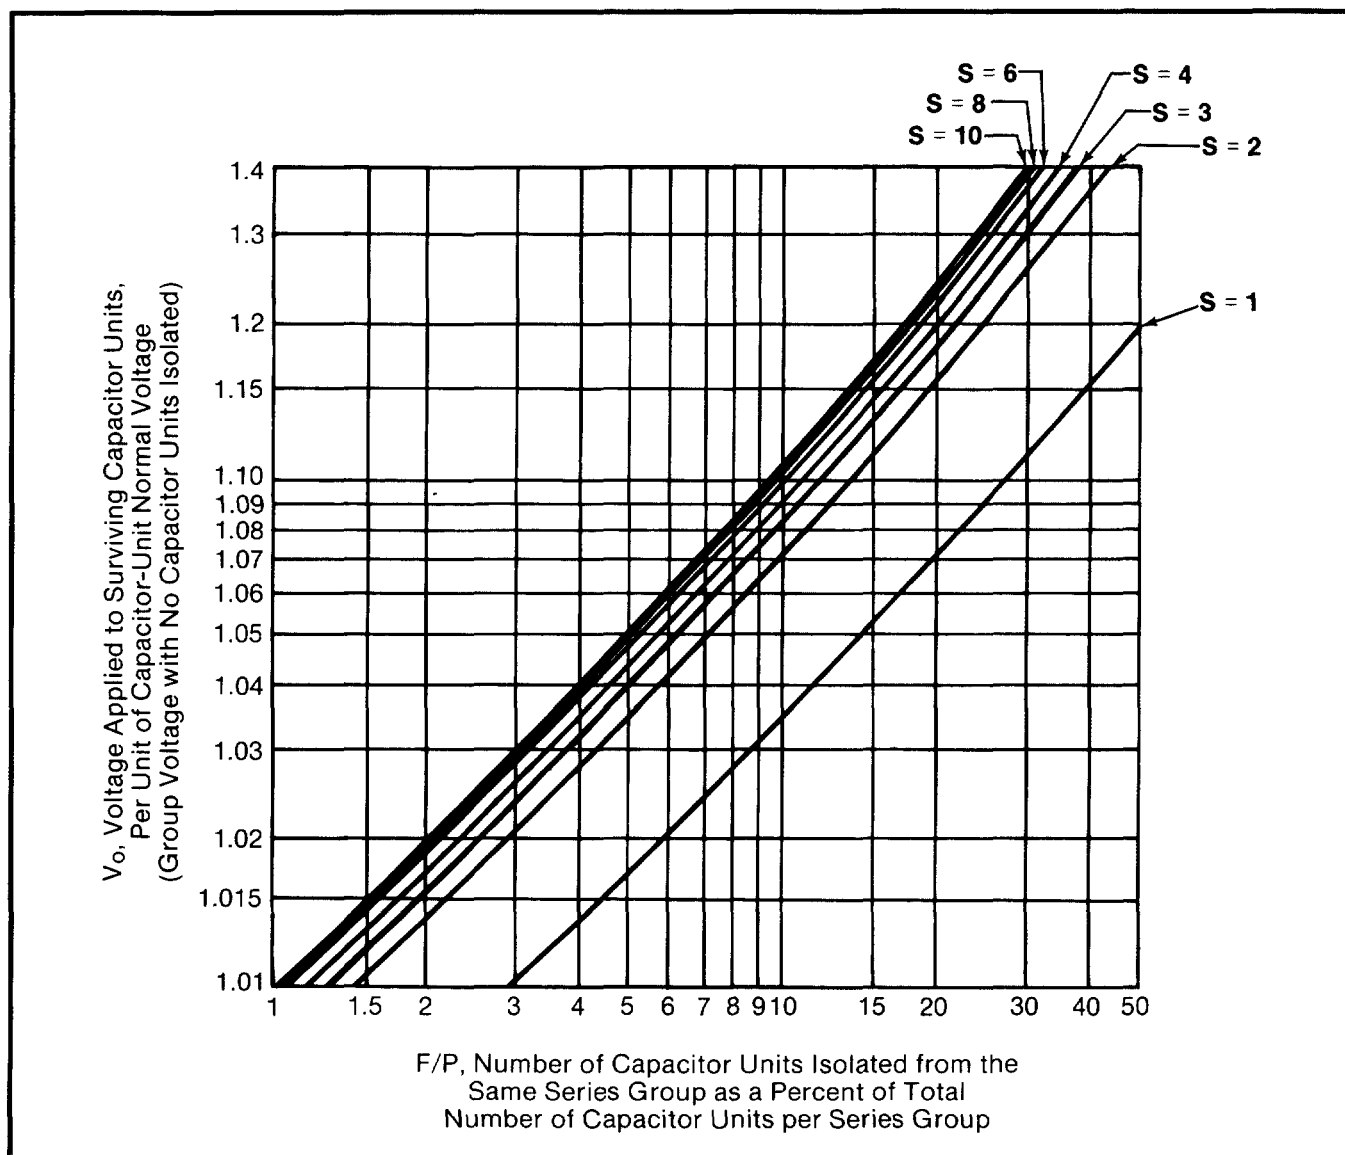

Figure 5. Per-unit voltage applied to surviving capacitor units in a series group versus percentage of capacitor units isolated from the same series group.
2. Using the graph, Figure 5, read per-unit values of V_o —the voltage applied to surviving capacitor units—for a series of steps corresponding to increasing values of F—the number of capacitor units isolated—up to
2. For $F = 1$, enter the graph, Figure 5, at 10 on the horizontal scale (1/10 = 10% of capacitor units isolated from a series group). Follow up to a point corresponding to 2 series groups per phase (curve labeled "S = 2") and read $V_o = 1.072$ per unit on the vertical scale.
For $F = 2$, in like manner, enter the graph, Figure 5, at 20 on the horizontal scale (2/10 = 20% of capacitor units isolated from the same series group). Follow up to a point corresponding to 2 series groups per phase (curve labeled "S = 2") and read $V_o = 1.16$ per unit on the vertical scale. Obviously, $F = 2$ is the critical step, F_c , if it is desired to limit V_o to 1.1 per unit or less.
2. For $F = 1$, enter the graph, Figure 5, at 8.33 on the horizontal scale (1/12 = 8.33% of capacitor units isolated from a series group). Follow up to a point corresponding to 7 series groups per phase (interpolate between curves labeled "S = 6" and "S = 8") and read $V_o = 1.085$ per unit on the vertical scale.
For $F = 2$, in like manner, enter the graph, Figure 5, at 16.67 on the horizontal scale (2/12 = 16.67% of capacitor units isolated from the same